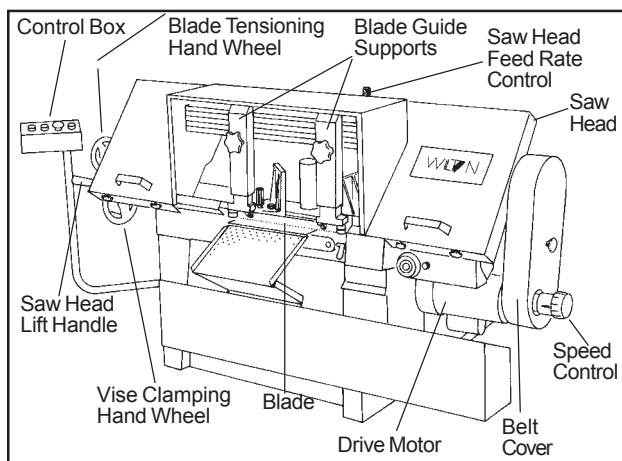

Figure 3: Controls
6. The rate at which the saw head moves downward is controlled by a hydraulic feed rate control located on the top, rear of the saw head (see figure 3).
3. To adjust the feed rate, adjust the feed rate control valve knob on the top of the saw head (see figure 3).